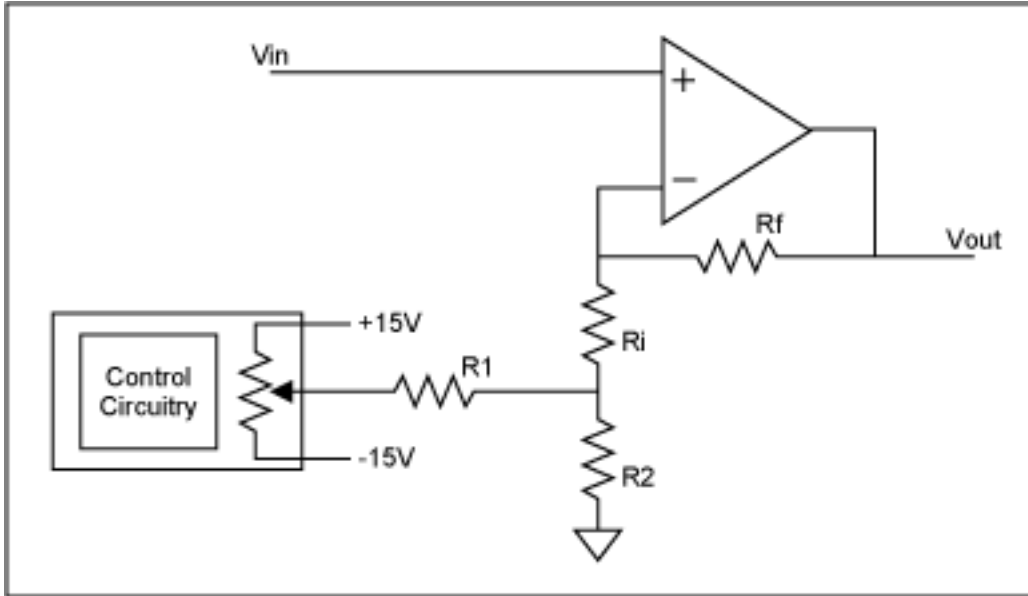

Figure 4. Non-inverting amplifier with EPOT for offset control.
**Figure 4** shows a non-inverting amplifier configuration using an EPOT for offset adjustment. Because the resistor  $R_i$  is not directly tied to ground, the equations for this circuit are fairly complex. By using the Thevenin replacement and a simplifying assumption, the analysis becomes much more straightforward.